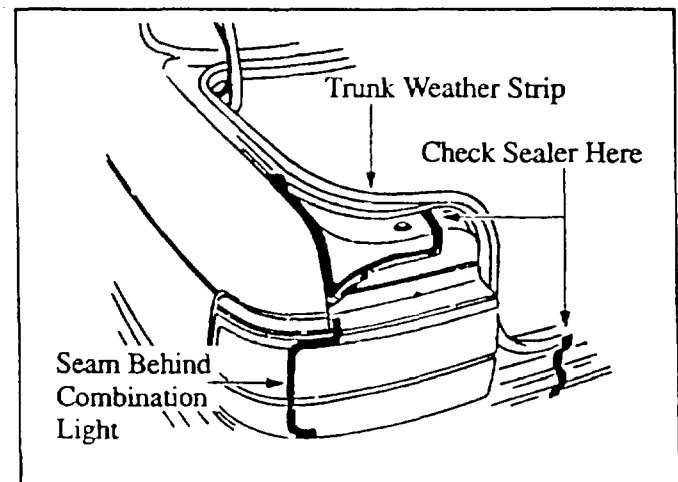

Figure 23: Inspecting Rear Trunk Area
1. If water leaks into the forward area of the trunk, make sure that the weatherstrip is properly seated and not leaking. **Figure 23.**